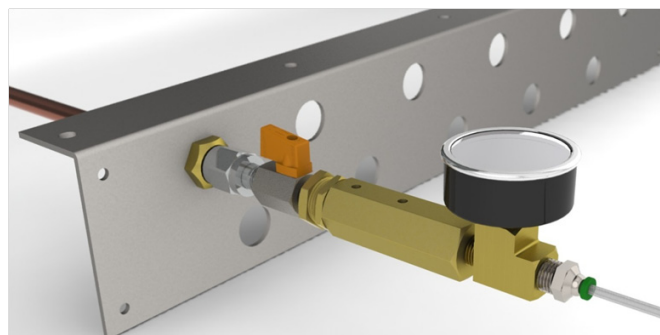

Figure 8.3 - Nitrogen Application
3. Connect the brake tube to regulator, and Y-fitting to the opposite end of the brake tube (See Figures 8.3 and 8.4).